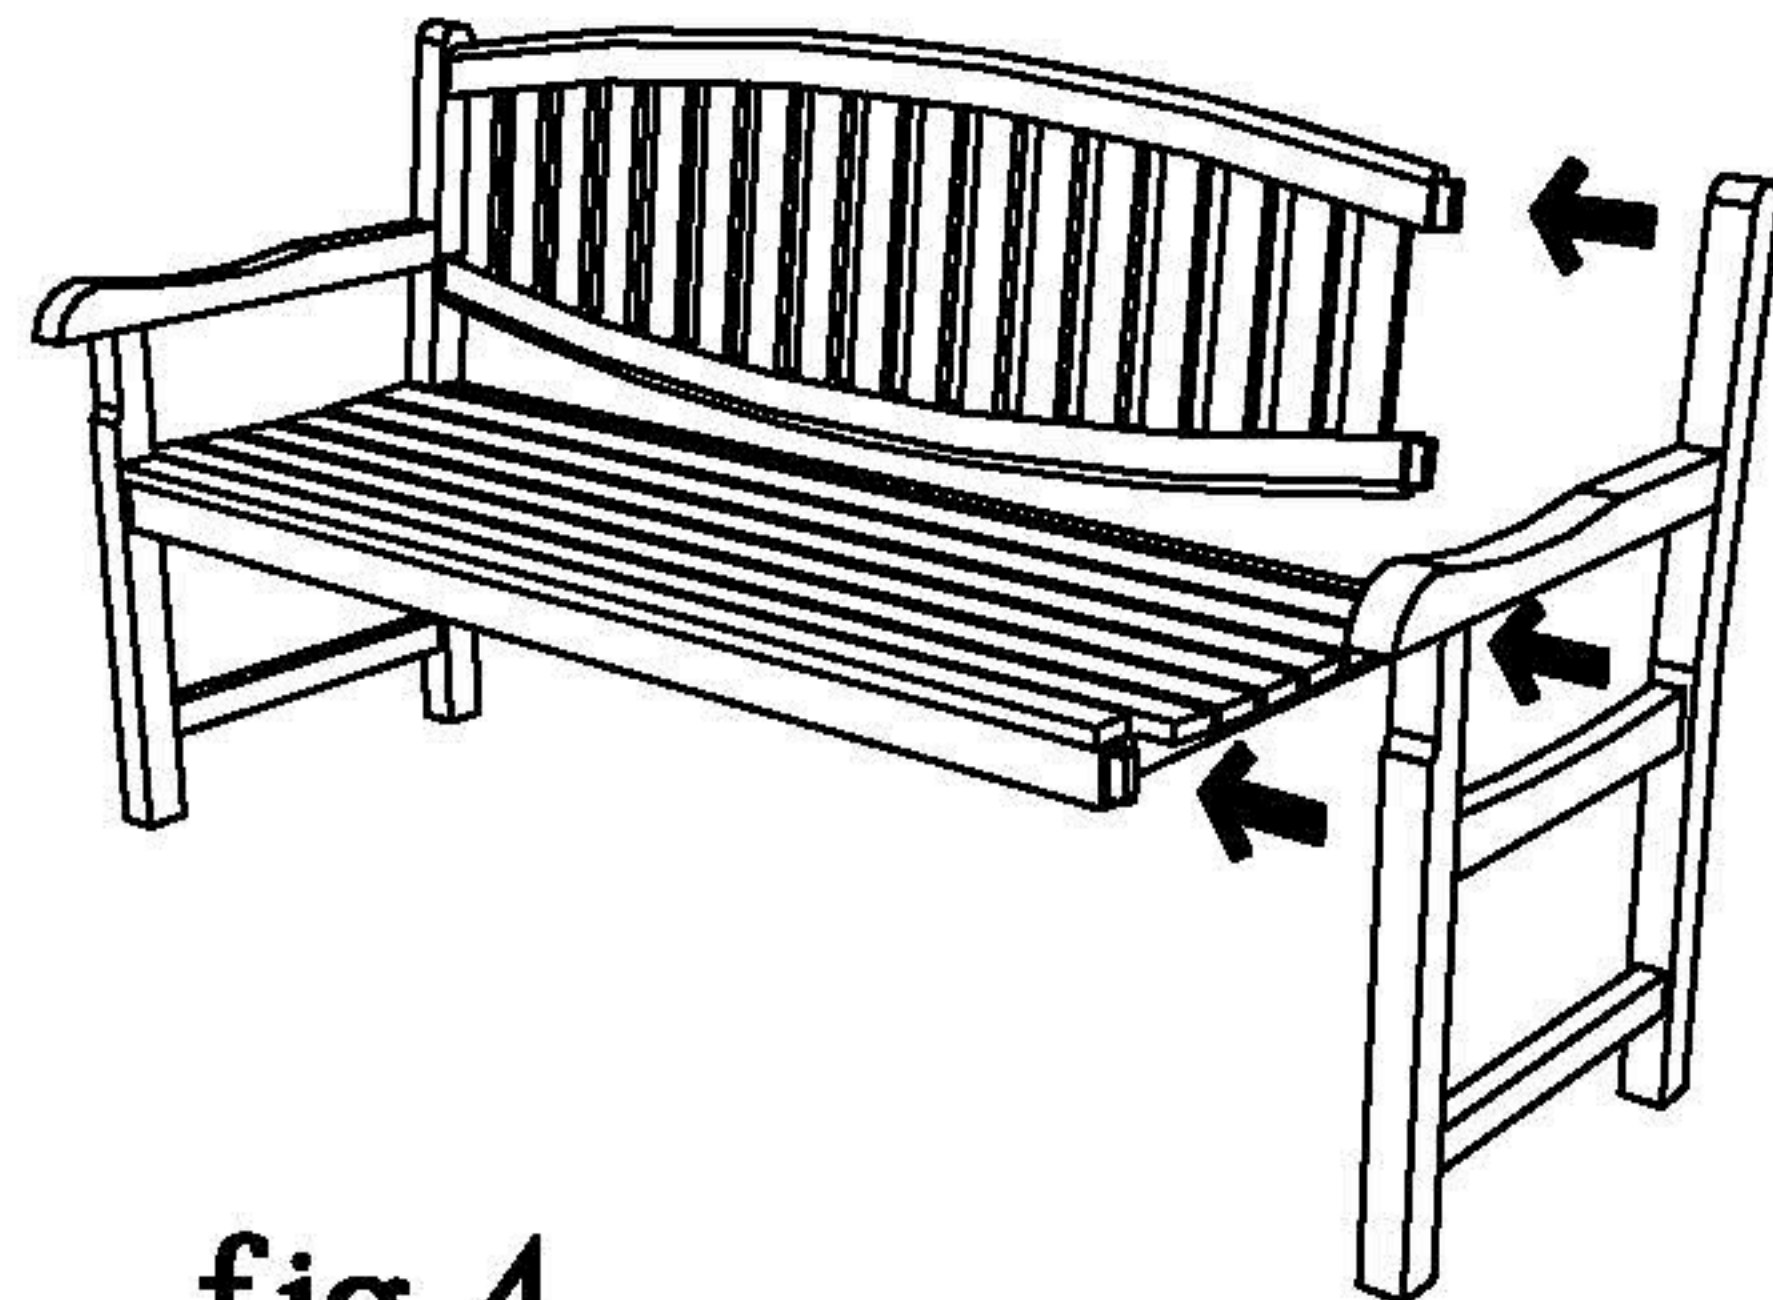

fig 4.
5. Insert the other leg. ( Fig. 4 )